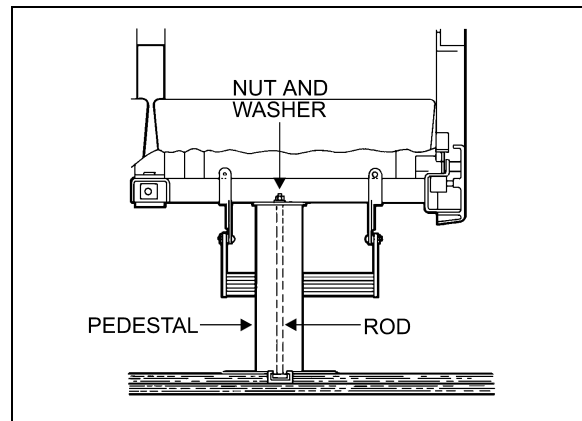

FIGURE 47: SEAT PEDESTAL ASSEMBLY
5. Remove 2 nuts and washers holding seat frame to pedestal rods. See figure 47.
6. Apply floor covering adhesive (680028) onto plywood using a serrated spreader with 1/8-inch serration. If required, apply contact adhesive (3M) (684655 or 684654) onto aluminum molding and also onto section of floor covering, which will be in contact with molding (refer to figure 47).